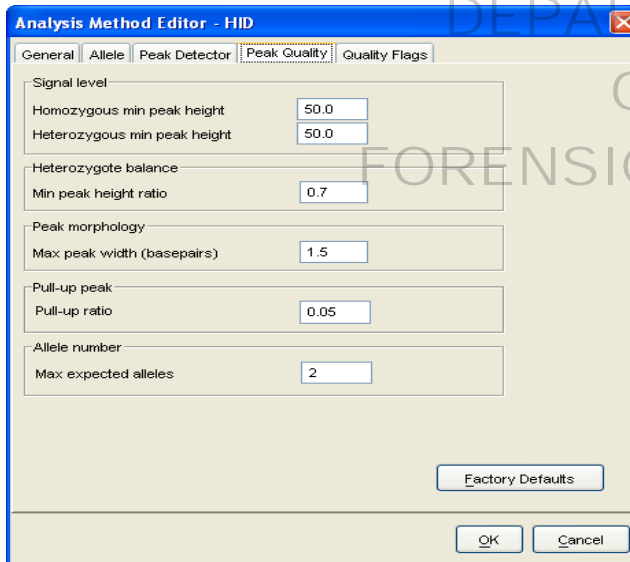

Figure 13. Analysis Method Editor – Peak Quality Tab
5.5 The default settings for the Peak Quality and Quality Flags tabs are used, as shown in Figures 13 and 14.